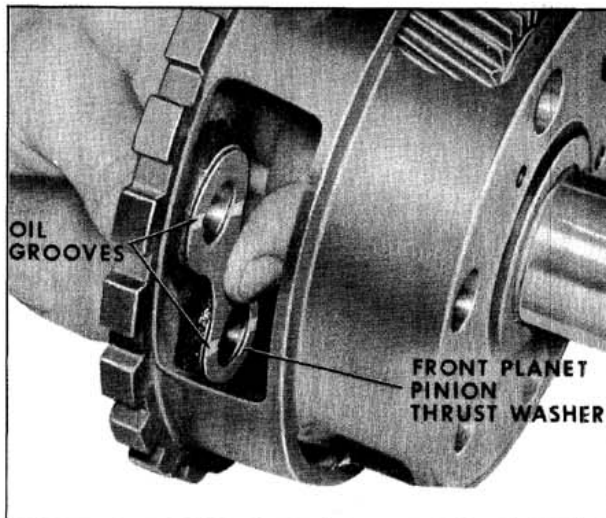

Fig. 6-465 Installing Front Thrust Washer
3. Install front planet pinion thrust washer. Retain thrust washer to case with grease. Oil grooves on the thrust washer must be toward the pinion gears. (Fig. 6-465)